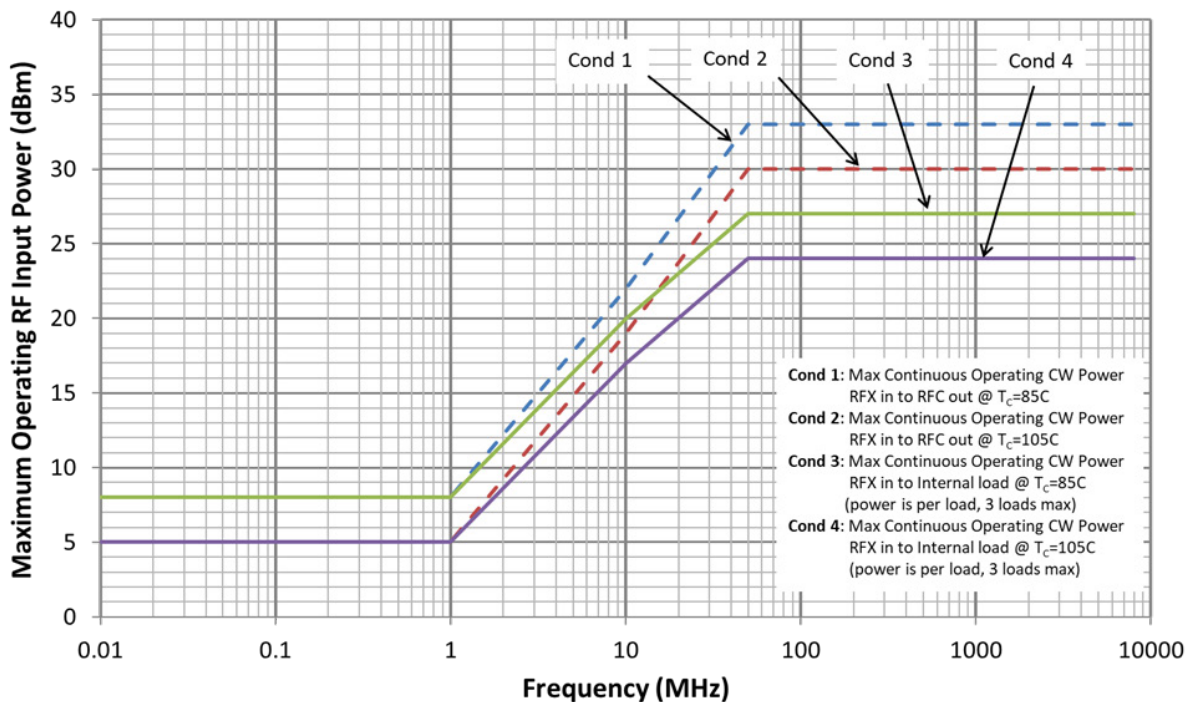

Figure 1. Maximum RF Input Power vs. RF Frequency
- Levels based on T_C ≤ 85 °C. See Figure 1 power derating curve for higher case temperatures.
3. The input 0.1dB compression point is a linearity figure of merit. Refer to Absolute Maximum Ratings section for the maximum RF input power and Figure 1 for maximum operating RF input power.